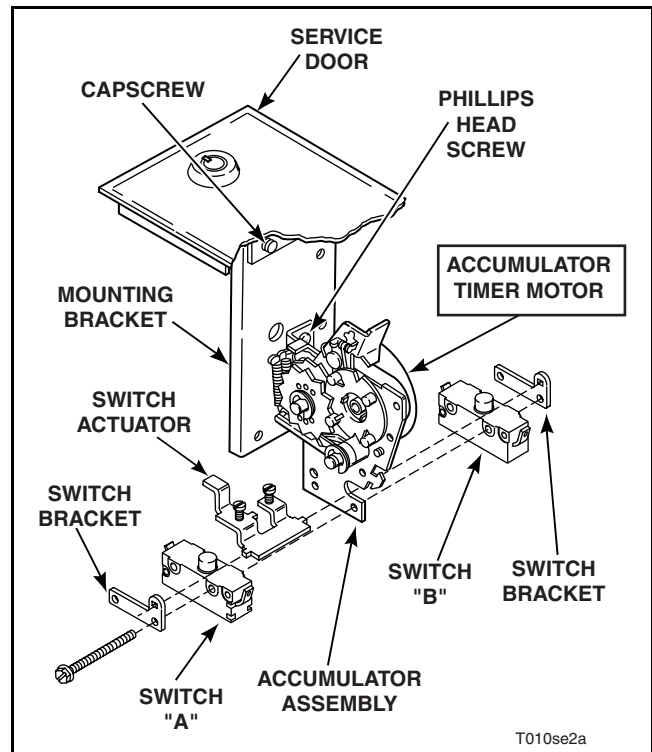

Figure 11
- Remove two capscrews holding accumulator bracket to service door. Refer to *Figure 11*.
- Remove two screws holding timer motor to mounting bracket. Refer to *Figure 11*.